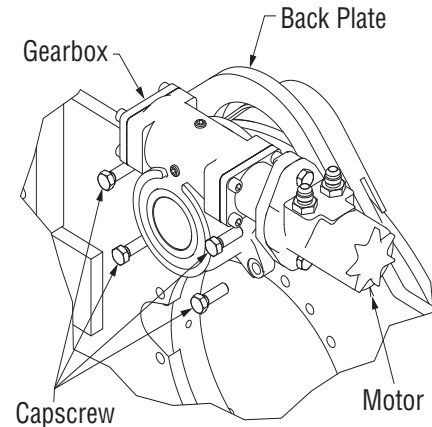

Figure 5-24, Gearbox Removal
2. Before removing the gearbox from the back plate, place a support overhead or under the gearbox. Remove the mounting capscrews from the gearbox. (Figure 5-24)